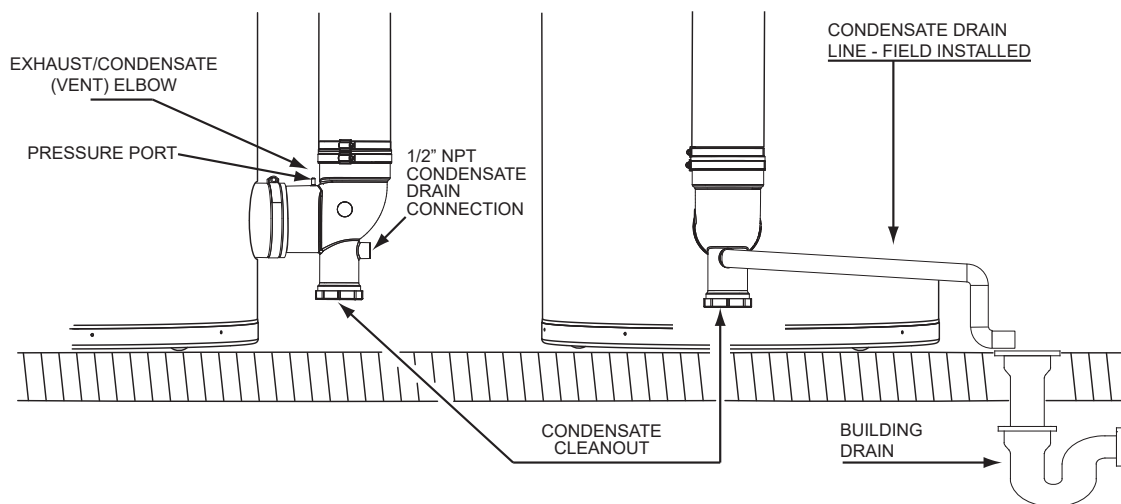

Figure 56. Condensate Drain Installation
2. Install a 1/2 inch PVC condensate drain line between condensate drain connection on the Exhaust/Condensate Elbow and a suitable building drain. The condensate line must slope to an open drain, see **Figure 56**.
3. Terminate the condensate drain piping with an elbow above the drain. Ensure that any discharge will exit the condensate drain line no more than 6 inches (15.2 cm) above a suitable building drain, or external to the building, see **Figure 56**.
4. Ensure the condensate drain line is not elevated above the condensate drain connection on the Exhaust/Condensate Elbow, see **Figure 56**.